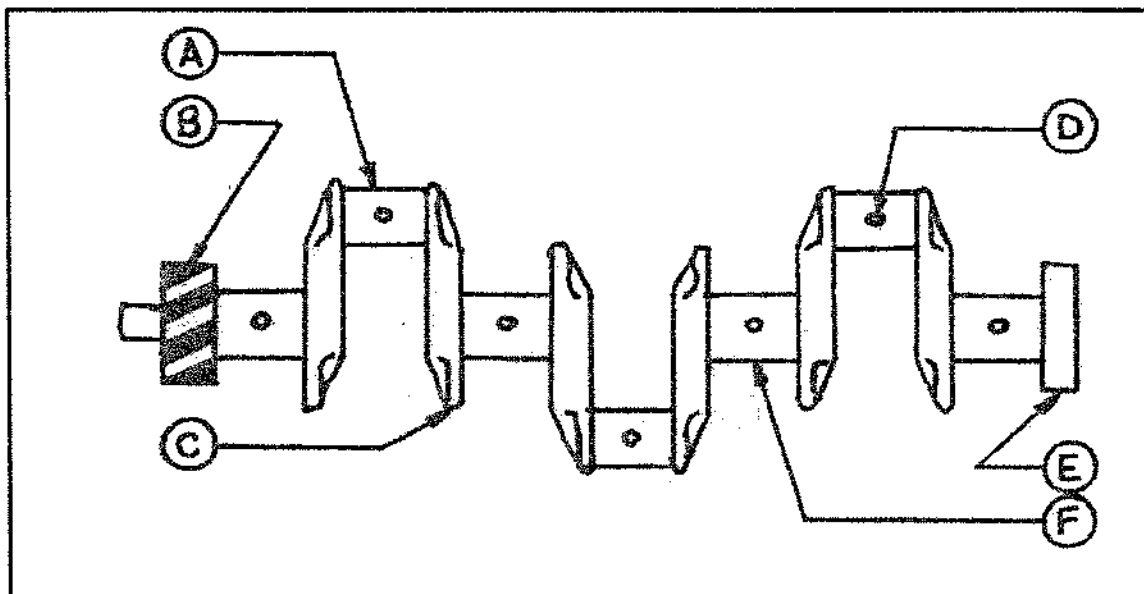

FIGURE 2
2.1 FIGURE 2 below, shows a sketch of a crankshaft of an internal combustion petrol engine. Name the parts marked (A–F) in the ANSWER BOOK.